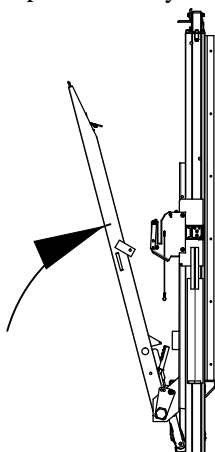

Figure 9: Step 12.
- Step 12. To close the platform, stand to the passenger's side of the platform, not under or behind the platform. With the platform lowered, engage the self-close mechanism and hold it in the engaged position while slowly raising the platform. After the platform begins to fold, step away from the lift and raise the platform until the latch ear is above the latch slot (Figure 9).